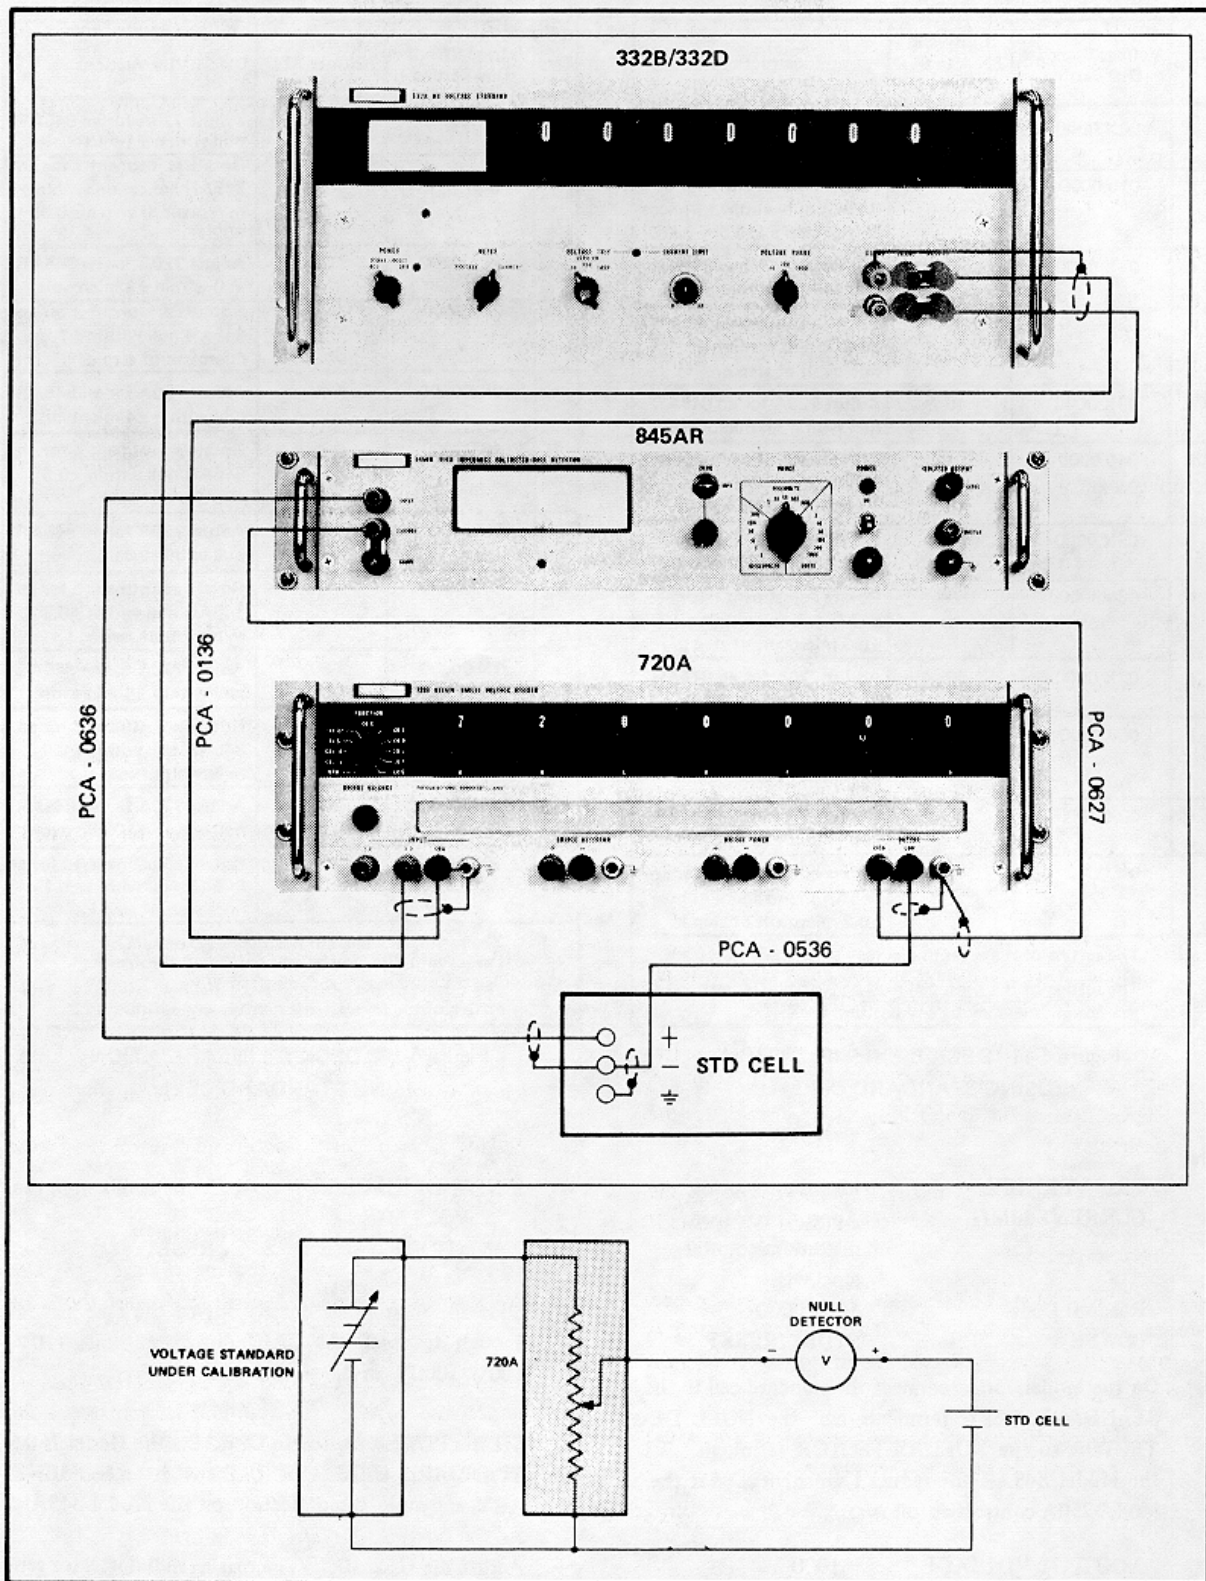

Figure 4-10. CONNECTIONS FOR SAMPLE STRING LINEARIZATION USING STANDARD CELL
- b. Make the equipment connections illustrated in Figure 4-10